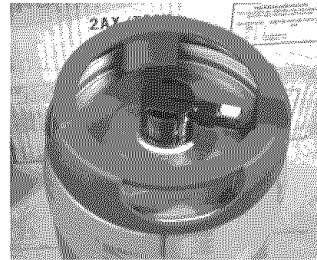

Figure 1
1. You will not need any of the parts that come with the keg (Tap and nozzle) Instead of those parts you will be using the Pressurized Keg Adapter, as shown in figure 1.